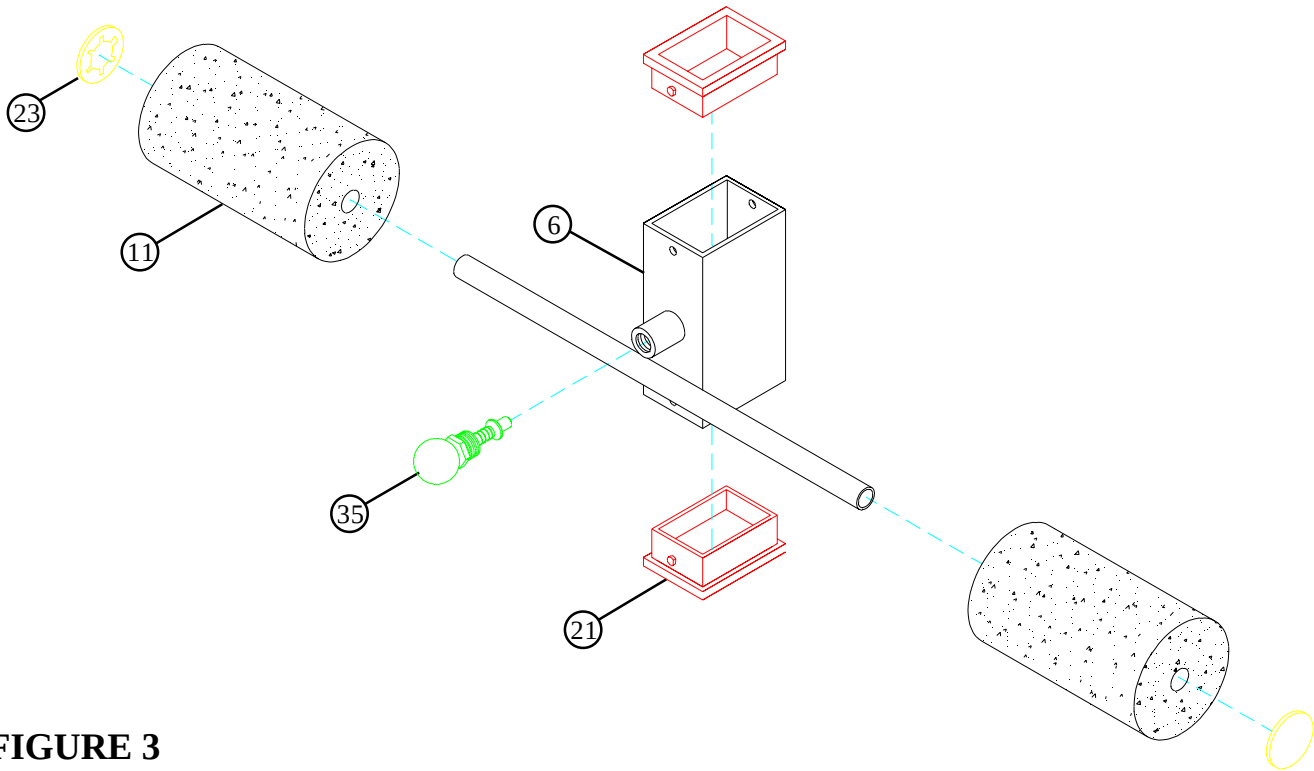

FIGURE 3
- Insert two 3 X 2" GUIDES (21) into the ends of the ROLLER PAD SUPPORT (6) as shown in FIGURE 3.
- Assemble two ROLLER PADS (11) to the ROLLER PAD SUPPORT (6) using two STARLOCK COLLARS (23).
- **SECURELY** assemble one SPRING PIN ASSEMBLY (35) to the spring pin barrel on the ROLLER PAD SUPPORT (6). See FIGURE 3.